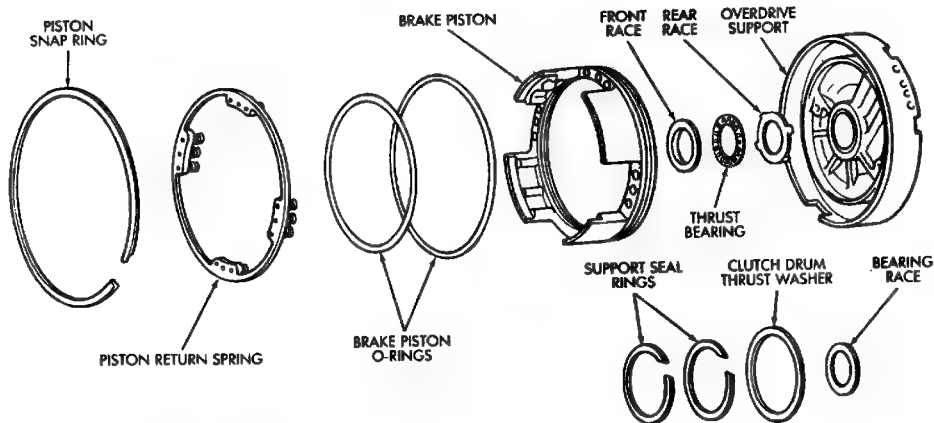

Fig. 1 Overdrive Support Components
(6) Mount support in direct clutch and remove brake piston with compressed air. Apply air to same feed hole used when checking piston operation.
(7) Remove and discard support O-rings (Fig. 1).